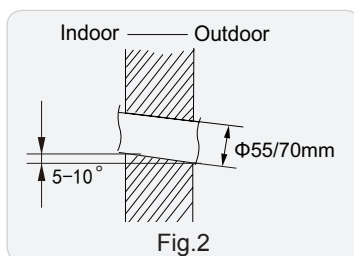

Fig.2
(2) Open a piping hole with the diameter of Φ55mm or Φ70mm on the selected outlet pipe position. In order to drain smoothly, slant the piping hole on the wall slightly downward to the outdoor side with the gradient of 5-10°. (As show in Fig.2)